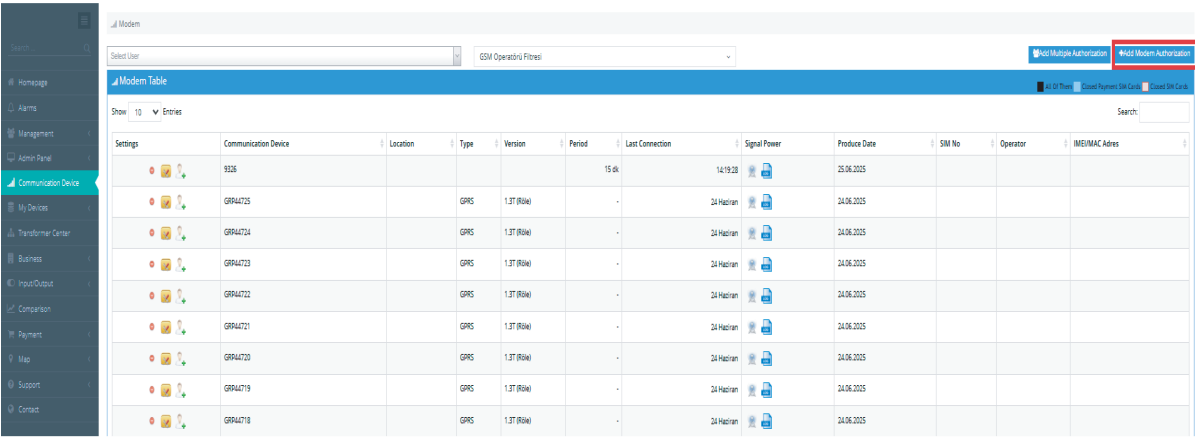

Figure 6.4
6. On the page that opens, click the "Add Modem Authorization" button. (Figure 6.4)